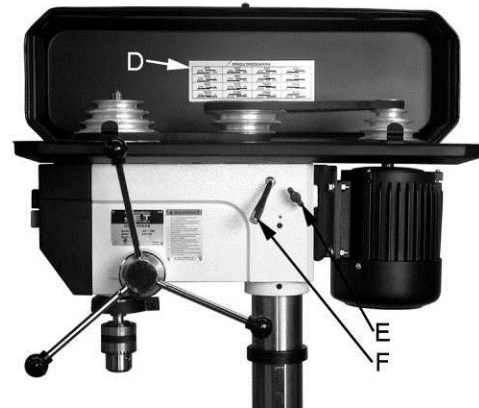

Figure 11
A spindle speed and pulley/belt arrangement chart for all models is found on the inside of the *pulley cover* (D, Fig. 11). Refer to this chart whenever changing speeds.
2. Loosen two *bar knobs* (E, Fig. 11) found on each side of the head assembly.
3. Rotate the *tension adjuster* (F, Fig. 11) clockwise to bring the motor base as close to the head as possible.
5. Rotate the *tension adjuster* (F, Fig. 11) counterclockwise to tension the belts.
6. Tighten two *bar knobs* (E, Fig. 11). Belts are properly tensioned when finger and thumb pressure midway between the two pulleys causes approximately $\frac{1}{2}$ " deflection.